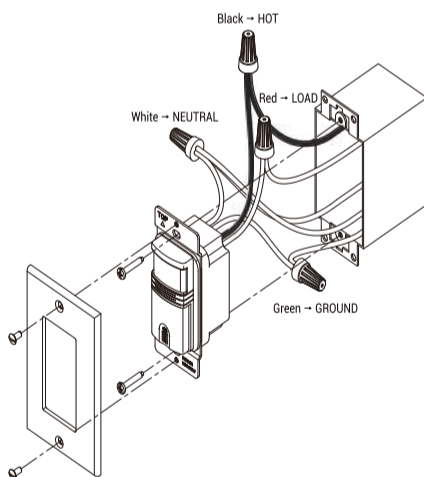

Figure 4: Sensor orientation, wire connections, and wall box assembly
- Cap the wires securely using the wire nuts provided (see figures 4 and 5).